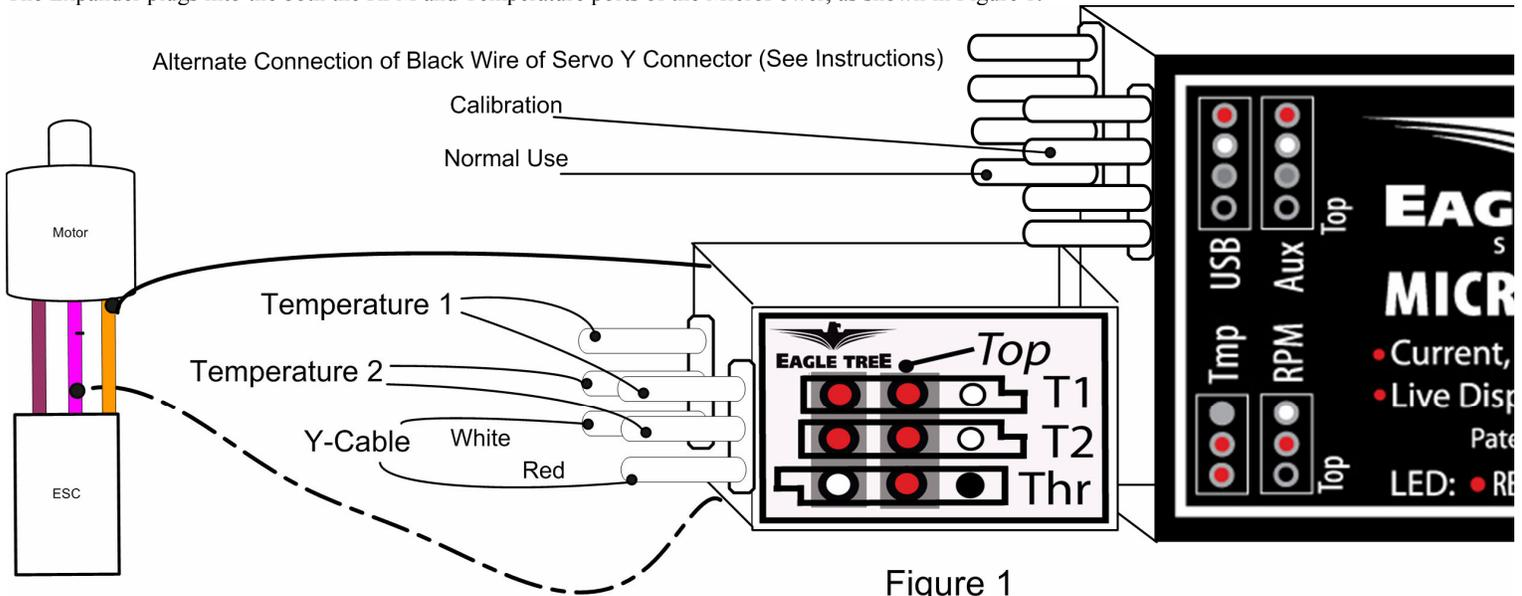
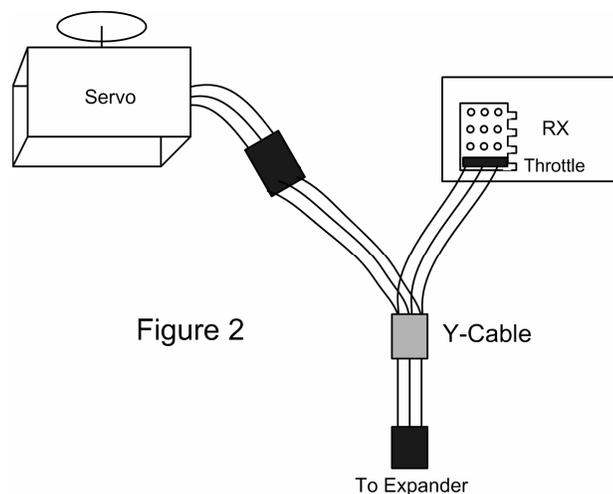

Figure 1
Figure 2
The Expander plugs into the both the RPM and Temperature ports of the MicroPower, as shown in Figure 1.
The Expander logs servo positions by measuring the pulses coming from your receiver to the throttle servo, via the included Y cable. The Y Cable has 3 connections. The “Futaba” male plug (at the “base of the Y”) connects to the Expander, vertically, as shown in Figure 1 and on the Sensor label. Only the white and red wires of the Y cable’s Futaba male connector connect to the Expander. The black wire of the Futaba connector is unconnected. The other two plugs of the Y cable connect to your receiver’s throttle channel, and to your throttle servo. See Figure 2 for connections of the Y cable to your Receiver and Servo.
IMPORTANT: For the throttle logging to work correctly, the ground (black) wire of the throttle servo must be connected electrically to the ground (black) wire of the battery pack. Some BECs or ESCs isolate battery ground from BEC ground. Or, sometimes a separate battery pack is used to power the receiver. In these cases, it is not possible to log throttle movements, unless a connection is made between the two grounds. One way to do this is to remove the black pin of the Y-Cable (the end that connects to the Expander), and connect that pin to one of the ground pins of the MicroPower. See Figure 1 for locations of the two alternate pin connections. Normally the end pin on the bottom row (USB Connection) is used, but during calibration, the 2nd pin of the upper row must be used, since the USB plug has to be connected during calibration. This connection will create a closed circuit between your receiver's ground and the battery pack's ground. **NOTE THAT THIS BYPASSES ANY ISOLATION BUILT INTO THE ESC BETWEEN THE BATTERY GROUND AND THE BEC GROUND.** We are aware of no issues with connecting a wire between battery ground and receiver ground in these cases, but proceed with caution (at your own risk) as there is the unlikely possibility that your hardware may be damaged by such a connection, and make sure you do an antenna down range check after making this change.
One or two temperature sensors can connect to the Expander. These connect vertically, with only two pins, as shown in Figure 1. Note that Display, Logging and Graphing of temperature is described in the MicroPower instruction manual. The only difference is that two temperature sensors can be used simultaneously, even when logging RPM.
- If you get no RPM readings, and have connected only one of the Brushless Sensor wires to 1 of the 3 wires leading from your ESC to your Motor, try connecting both of the unconnected sensor leads to 2 of the 3 wires leading from your ESC to your Motor, as shown in Figure 1.
- Ensure you have connected the Temperature Sensor(s) vertically to the Expander as shown in Figure 1.
- Ensure you have connected the Y cable as shown in Figure 1.